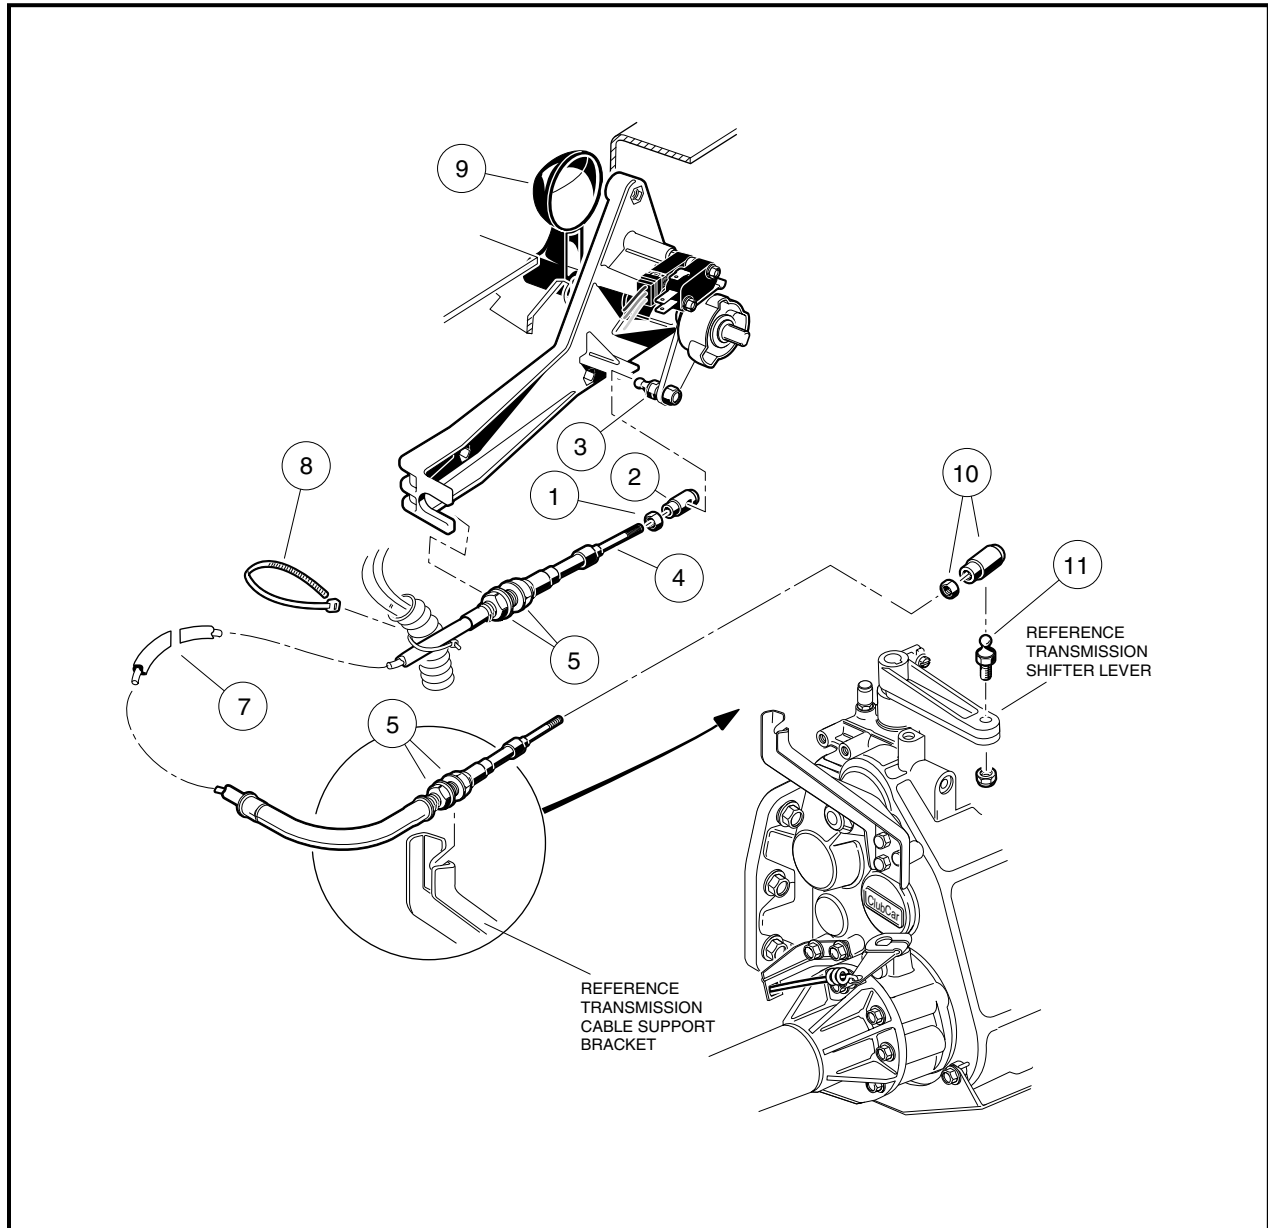

Figure 16a-116 Forward/Reverse Shifter Cable
With the shifter lever of the unitized transaxle in the NEUTRAL position (**Figure 16a-115, Page 16a-50**), the Forward/Reverse handle (9) (**Figure 16a-116, Page 16a-51**) should be straight up. For minor adjustments, the nut (1) may be loosened and the ball joint socket (2) rotated to get the proper adjustment (**Figure 16a-116, Page 16a-51**). See following **CAUTION**.
For major adjustments, the cable retaining nuts (5) must be loosened and adjusted. When the cable is properly adjusted, with the Forward/Reverse handle (9) (**Figure 16a-116, Page 16a-51**) in the NEUTRAL position, the shifter lever of the transaxle will also be in the NEUTRAL position (**Figure 16a-115, Page 16a-50**). Retighten nuts to 22 ft-lb (29.8 N·m).